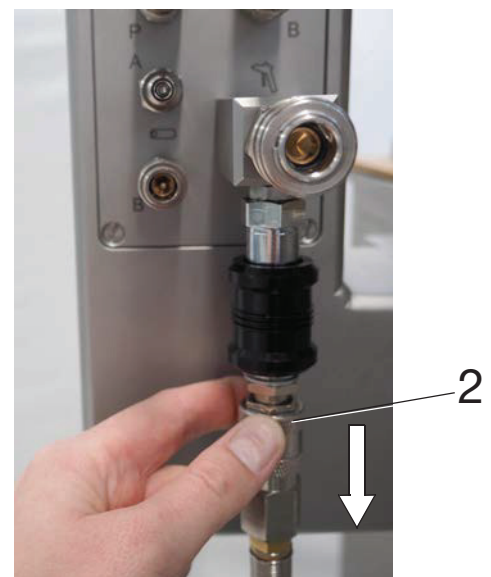

Fig. 1-23 2 Ring on the air release valve
- Push and hold the compressed air hose in the direction of flow while pushing the ring on the air release valve (2, Fig. 1-23) against the direction of flow and remove the hose.